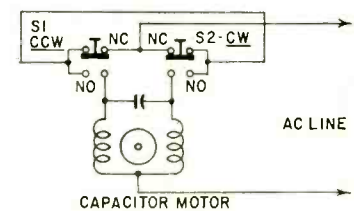

Fig. 1—Protective circuit for capacitor motors.
Fig. 1 shows such a modification as applied to a capacitor type motor. In this circuit, when S1 is depressed to produce counterclockwise rotation, current flows from the line through S2's normally closed (NC) contact through the switch-arm interconnection and finally through S1 to the motor. Pressing S2 for clockwise rotation does the same thing, but through the opposite switch and motor winding. If both buttons are pressed simultaneously, the line is disconnected and nothing happens.
To make the strobe, first cut the polystyrene handle pieces to the dimensions given in Fig. 1.